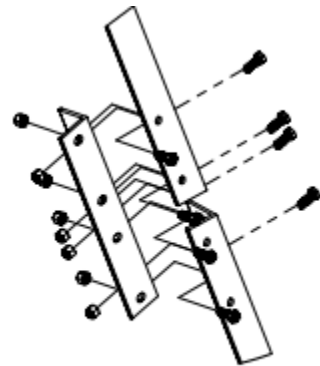

Fig 9
15. Install a tower leg splice and bottom legs to the bottom of each leg on the 5 foot tower assembly using 8 - 3/8" x 1" bolts & 8 - 3/8" nylon lock nuts on each. Do not tighten these at this time. (Fig 9)